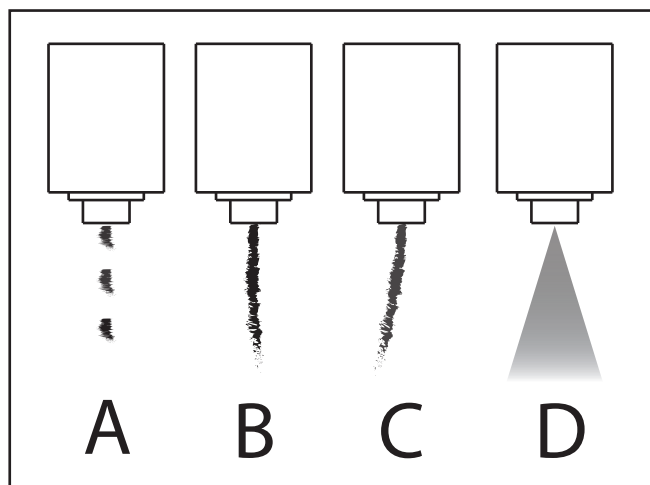

Figure 2
Close the gauge shut off and rapidly pump the lever (four to six per second); observing the spray pattern. The test fails if the pattern is choppy (A), a stream (B), or uneven (C). Passing pintle and throttle nozzle patterns should be even and well atomized. Hole type nozzles should be full and finely atomized (D) (Figure 2).